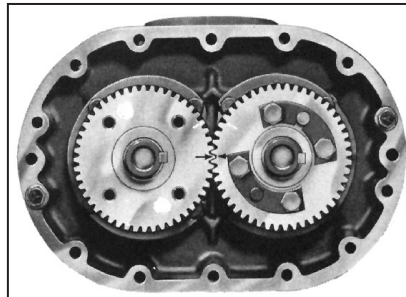
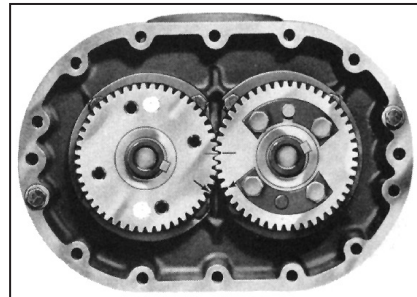

Figure 11 - Position of timing marks
Figure 12 - Position of timing marks
7. Position the timing gears for pulling by first matching the timing marks on the gears. See Figure 11. Turn the drive gear clockwise five teeth and mark a matching reference line on each gear as shown in Figure 12, above. The rotor lobes are now in their most open position. Using a gear puller, the driven gear (left hand helix) may now be removed without jamming the rotors. This gear is in two parts - the gear rim and hub. It is not necessary to disassemble. Do not allow the gears to move from the matched reference line while pulling. Use a light rocking motion while pulling the gear to insure that the lobes have not jammed.
9. Install drive gear (right hand helix) on drive rotor (left side). To install driven gear, align reference marks as shown in Figure 12. Install driven gear carefully to avoid damaging any teeth when engaging opposite gear. Secure with gear lockwasher [36] and lock nut [35].